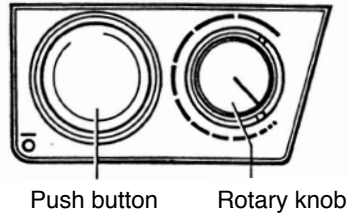

Fig. 4
- Plug unit into mains and switch on the pushbutton switch using thumb (figs. 4 and 5).